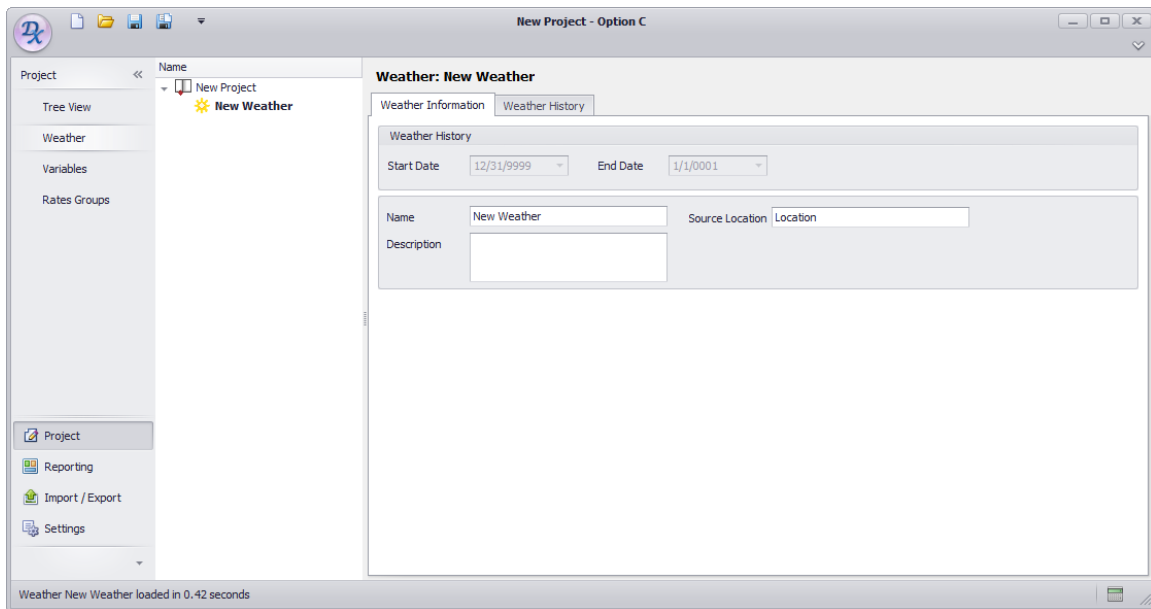

Figure 2.4: Weather configuration window.
- **Weather:** In this tab you will be able to create weather profiles for informative purposes. Weather profiles created can only be used at the Site Level. When laying out a project, understand that Sites are usually unique geographical locations that have their own weather patterns. Figure 2.4 shows the project weather window after a New Weather has been created. More information about how to create Weather profiles and how to assign them to a specific site will be given in next section.